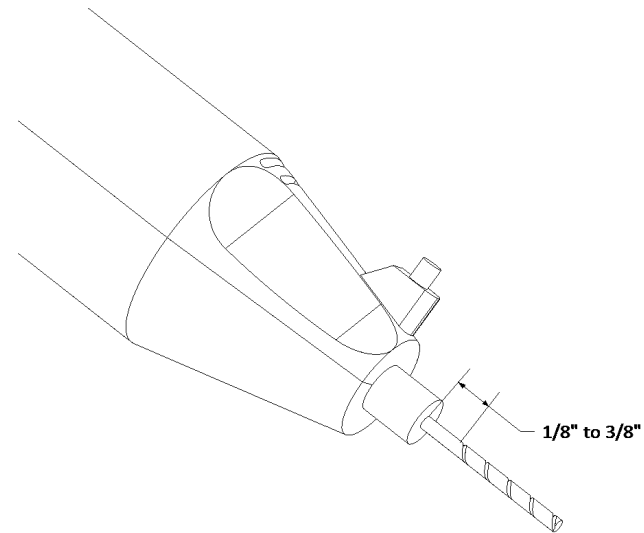

Figure 1
Step 1 - Adjust the router bit so that the shank of the bit extends approximately 1/8" to 3/8" beyond the router base so that the smooth shank contacts the router template and the cutting edge of the bit will not cut the template. (Ref. Figure 1)